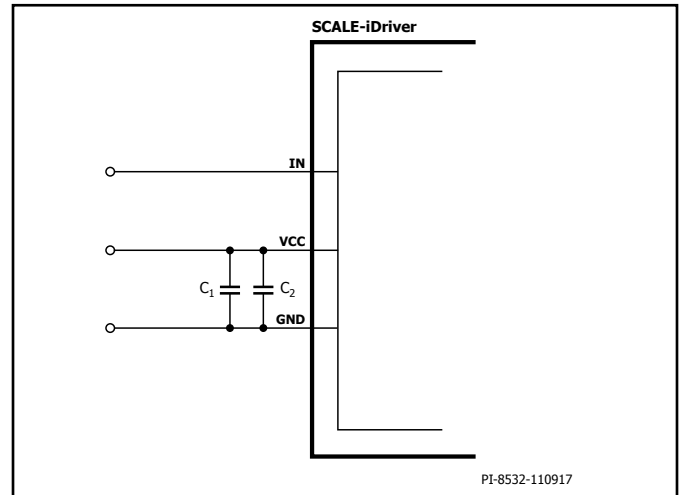
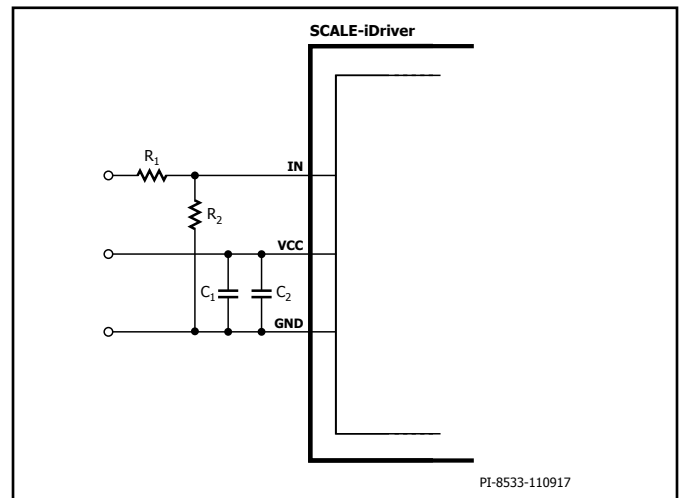
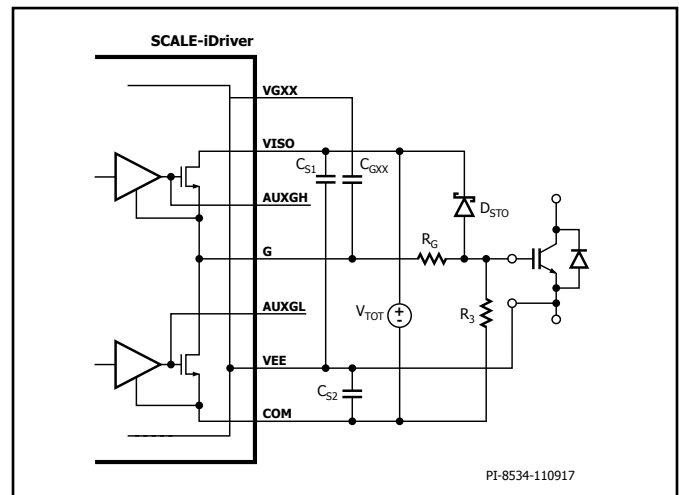
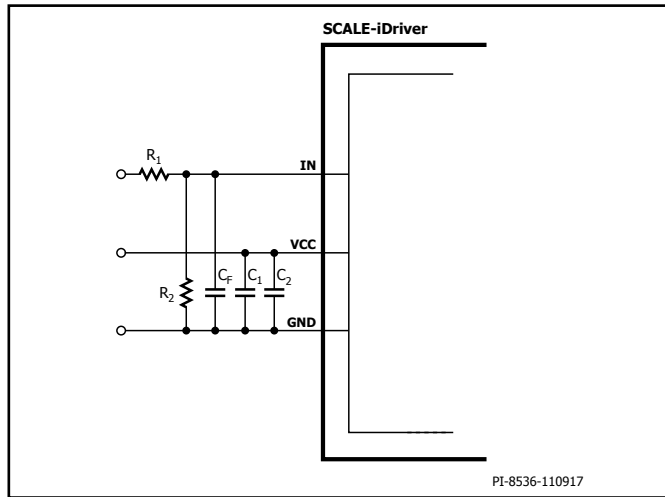

Figure 5. Recommended Circuitry for Standard 5 V IN Logic Level.
Figure 6. Recommended Circuitry for Increased IN Logic Levels. For  $R_1 = 3.3 \text{ k}\Omega$  and  $R_2 = 1 \text{ k}\Omega$  the IN Logic Level is 15 V.
Figure 7. SID1102K without External Booster Stage.
Figure 8. Optional Input Signal Filtering.
The input (IN) logic is designed to work directly with micro-controllers using 5 V CMOS logic. If the physical distance between the controller and the SCALE-iDriver is large or if a different logic level is required, the resistive divider in Figure 6 is recommended. This solution adjusts the logic level as necessary and will also improve the driver's noise immunity.
The gate of the power semiconductor switch should be connected to the SCALE-iDriver output via pin G, using suitable gate resistor  $R_G$  as shown in Figure 7.
It is recommended during power-up and power-down that the IN pin stays at logic low. Any supply voltage related to  $V_{CC}$ ,  $V_{ISO}$ ,  $V_{EE}$  and  $V_{GXX}$  pins should be stabilized using ceramic capacitors  $C_1$ ,  $C_2$ ,  $C_{S1}$ ,  $C_{S2}$ , and  $C_{GXX}$  respectively as shown in Figure 5 and Figure 7. After supply voltages reach their nominal values, the driver will begin to function after a time delay  $t_{START}$ .
Figure 5 and Figure 7 show the primary-side and secondary-side schematic and typical components used for SID1102K design without a booster stage, in which the primary-side supply voltage ( $V_{VCC}$ ) will be connected between VCC and GND pins and supported through supply bypass ceramic capacitors  $C_1$  (4.7  $\mu$ F typically) and  $C_2$  (470 nF typically). If the command signal voltage level is higher than the rated IN pin voltage, a resistive voltage divider should be used (Figure 6). Additional capacitor  $C_F$  can be used to provide input signal filtering as shown in Figure 8. The filter time  $\tau$  can be calculated according to equation (1):
To avoid parasitic power-switch-conduction during system power-on the gate is connected to COM through 22 k $\Omega$  resistor  $R_3$  as shown in Figure 7.
The primary-side can be setup identical as described in the previous section referring to Figure 5 or Figure 6 or Figure 8.